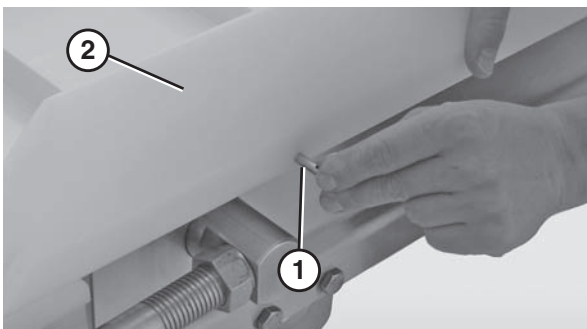

Figure 41
1. Remove the guides, if applicable, by removing the pull pins (Figure 41, item 1) that connect the guide (Figure 41, item 2) to the frame.